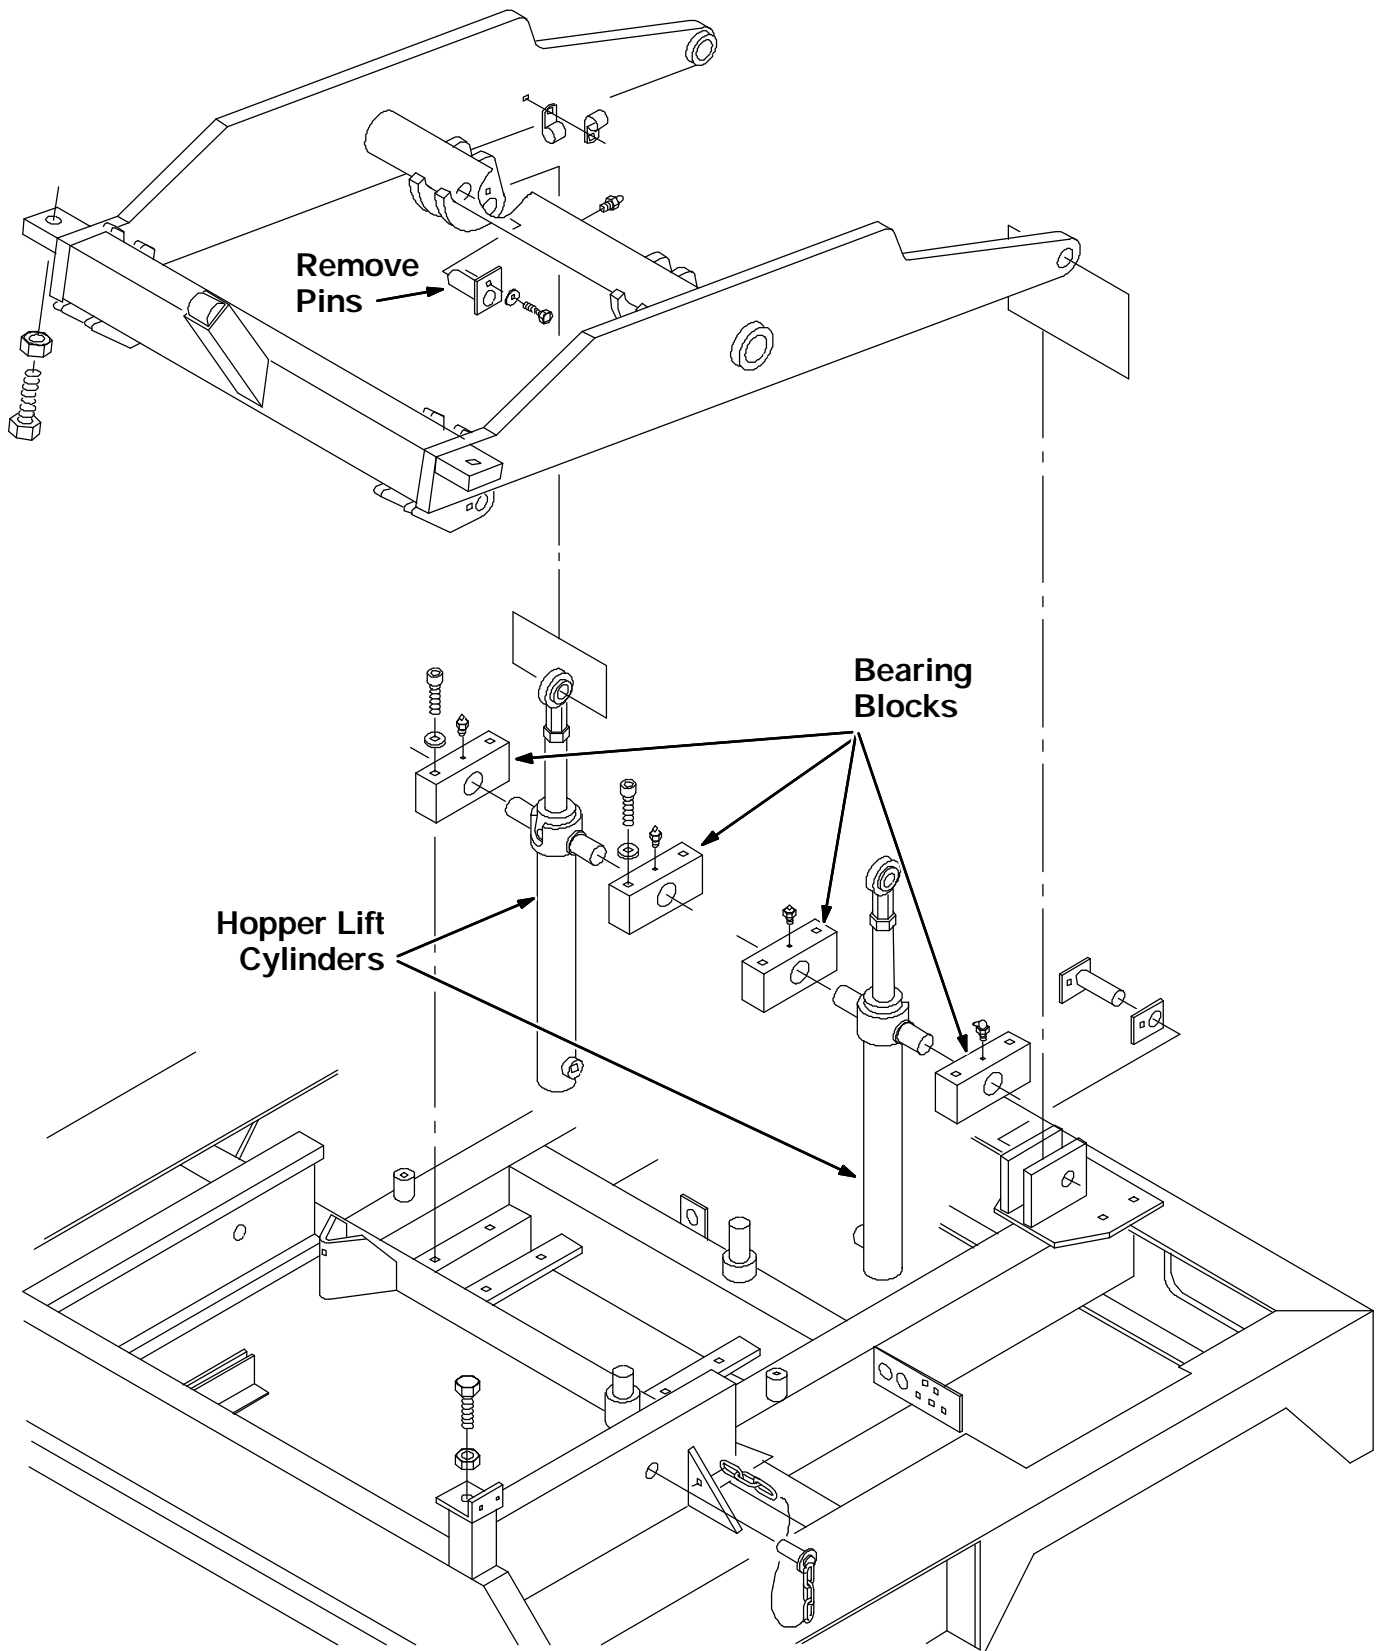

FIG. 3 - Hopper Lift Cylinders
2. Remove the pins on the rod ends of the hopper lift cylinders. (Refer to Fig. 3)
3. Remove the four bearing blocks that hold the hopper lift cylinders. (Refer to Fig. 3)
5. Replace the four bearing blocks and the hopper lift cylinders. (Refer to Fig. 3)